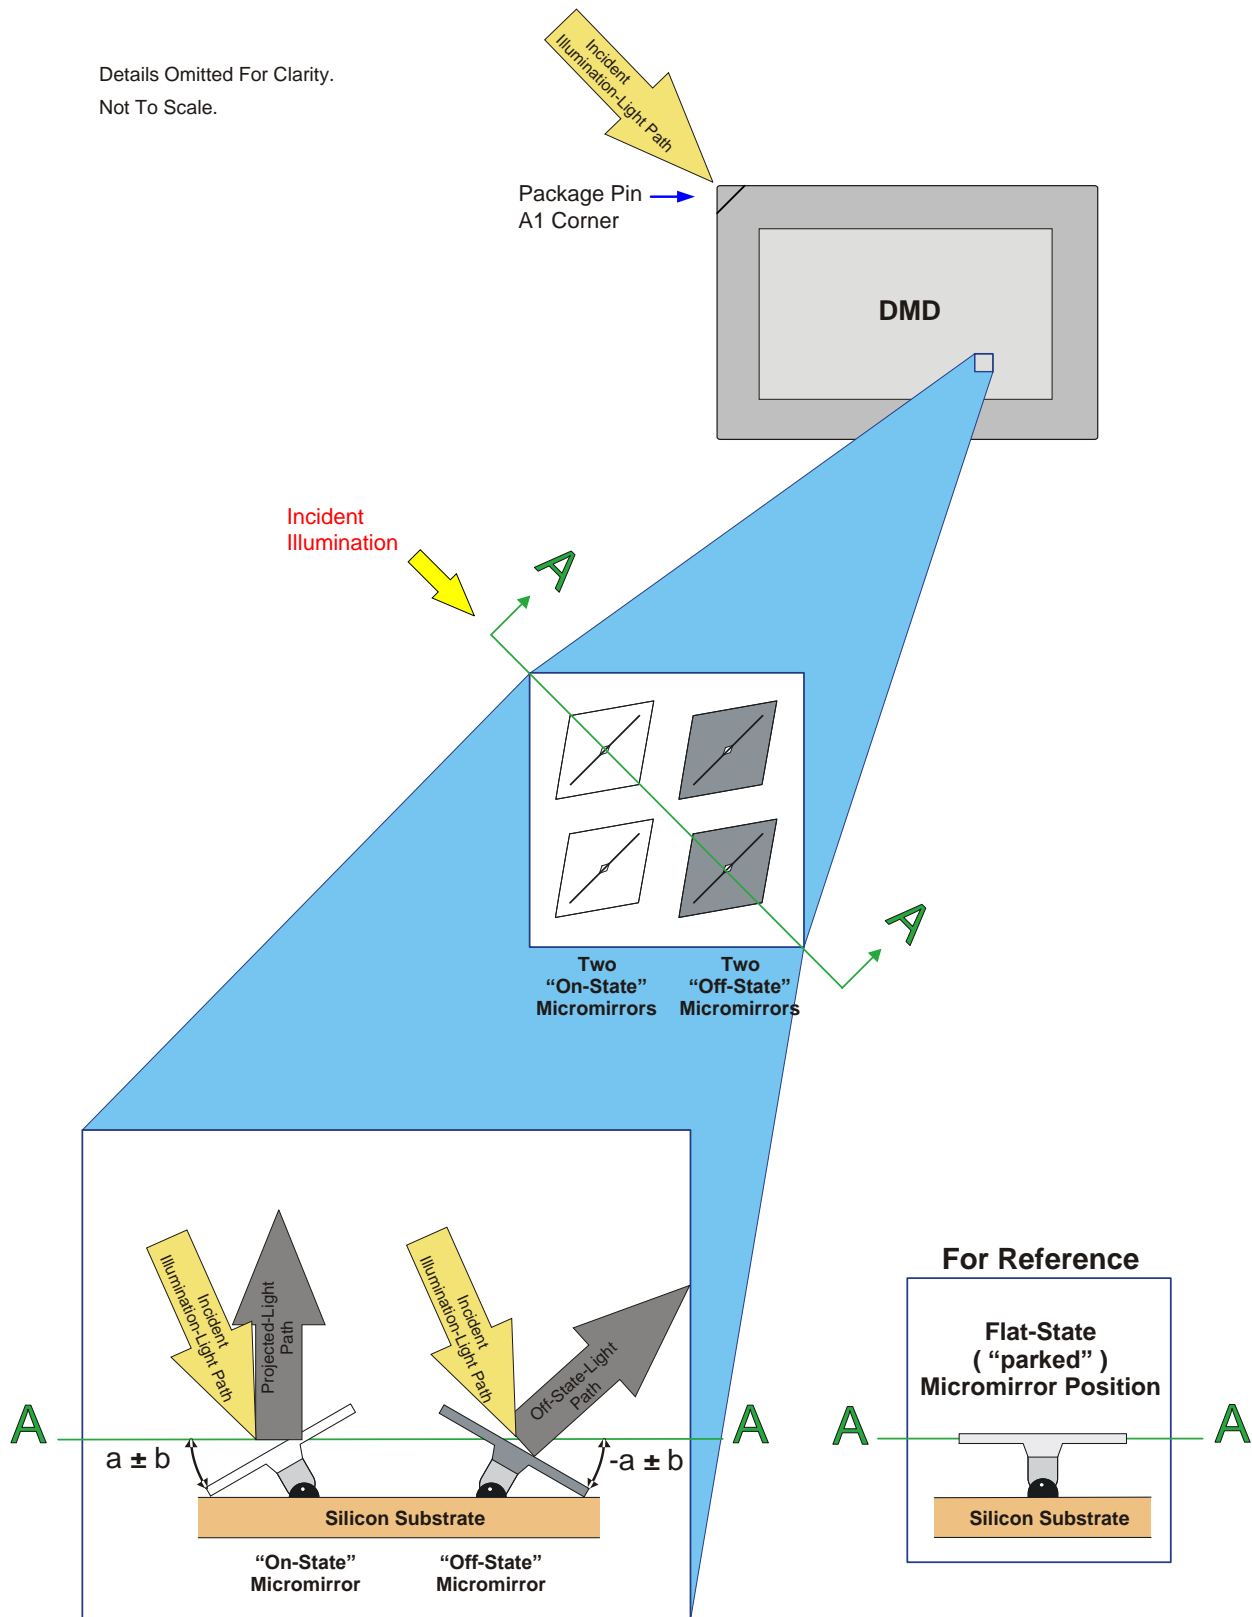

Figure 14. Micromirror States: On, Off, Flat
- (1) Measured relative to the plane formed by the overall micromirror array. For more information please refer to Figure 14
- (2) Additional variation exists between the micromirror array and the package datums.
- (3) Represents the landed tilt angle variation relative to the nominal landed tilt angle.
- (4) Represents the variation that can occur between any two individual micromirrors, located on the same device or located on different devices.
- (5) For some applications, it is critical to account for the micromirror tilt angle variation in the overall system optical design. With some system optical designs, the micromirror tilt angle variation within a device may result in perceivable non-uniformities in the light field reflected from the micromirror array. With some system optical designs, the micromirror tilt angle variation between devices may result in colorimetry variations, system efficiency variations or system contrast variations.
- (6) When the micromirror array is landed (not parked), the tilt direction of each individual micromirror is dictated by the binary contents of the CMOS memory cell associated with each individual micromirror. A binary value of 1 results in a micromirror landing in the ON State direction. A binary value of 0 results in a micromirror landing in the OFF State direction.
Each aluminum micromirror is switchable between two discrete angular positions, $-\alpha$ and $+\alpha$. The angular positions are measured relative to the micromirror array plane, which is parallel to the silicon substrate. Refer to Micromirror Array Optical Characteristics and Figure 14.